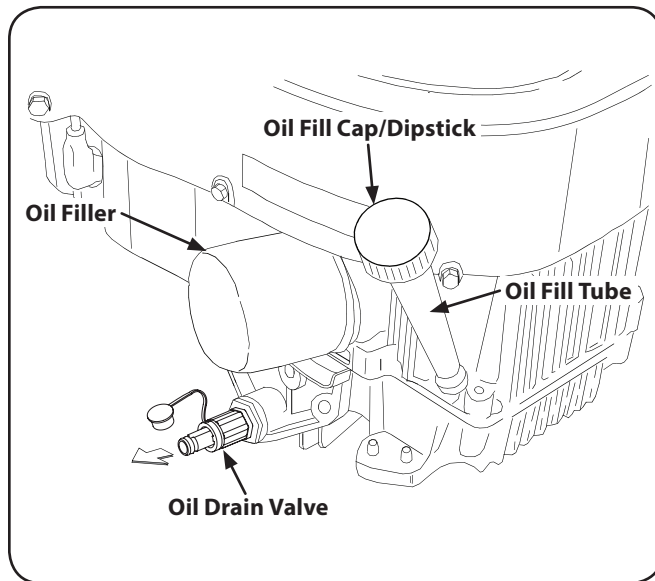

Figure 6-1
3. If your engine has the oil drain valve setup shown in Figure 6-1, see the Oil Drain Valve section below.
1. Pop open the protective cap on the end of the oil drain valve to expose the drain port. Refer to Figure 6-1. Remove the oil fill cap/dipstick from the oil fill tube.